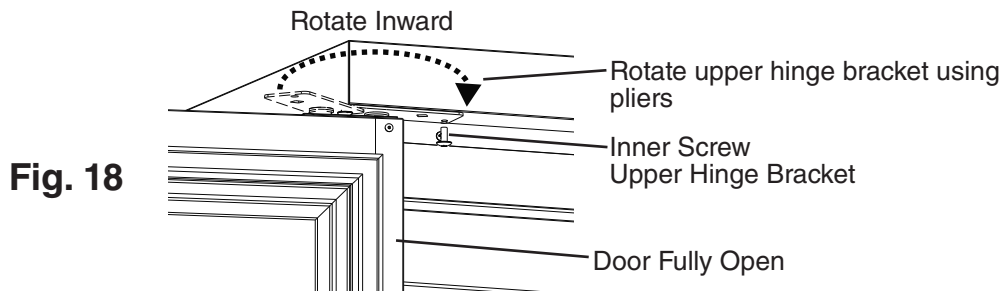

Fig. 18
- 14) Rotate the upper hinge bracket inward into position using pliers. See Fig. 18.